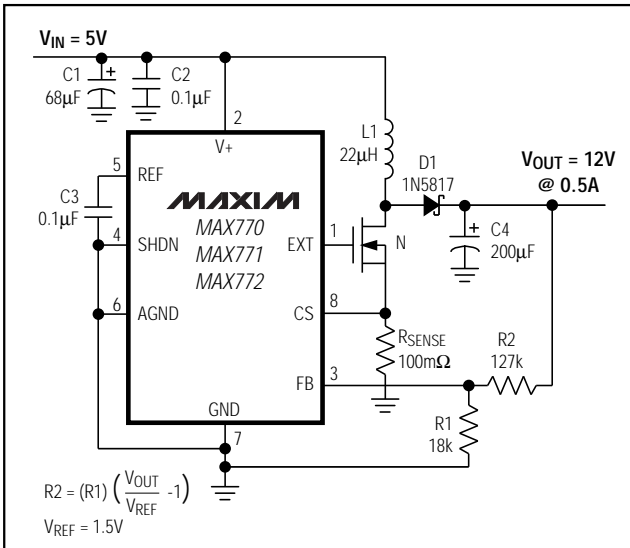

Figure 2c. 12V Output, Non-Bootstrapped
**Note:** When using the MAX770/MAX771/MAX772 in non-bootstrapped mode, there is no preset output operation because V+ is also the output voltage sense point for fixed-output operation. External resistors must be used to set the output voltage. Use 1% external feedback resistors when operating in adjustable-output mode (Figures 2c, 2d, 3b, 3d, 3e) to achieve an overall output voltage accuracy of ±5%. The MAX773 can be operated in non-bootstrapped mode without using external feedback resistors because V+ does not act as the output voltage sense point with preset-output operation. To achieve highest efficiency, operate in bootstrapped mode whenever possible.